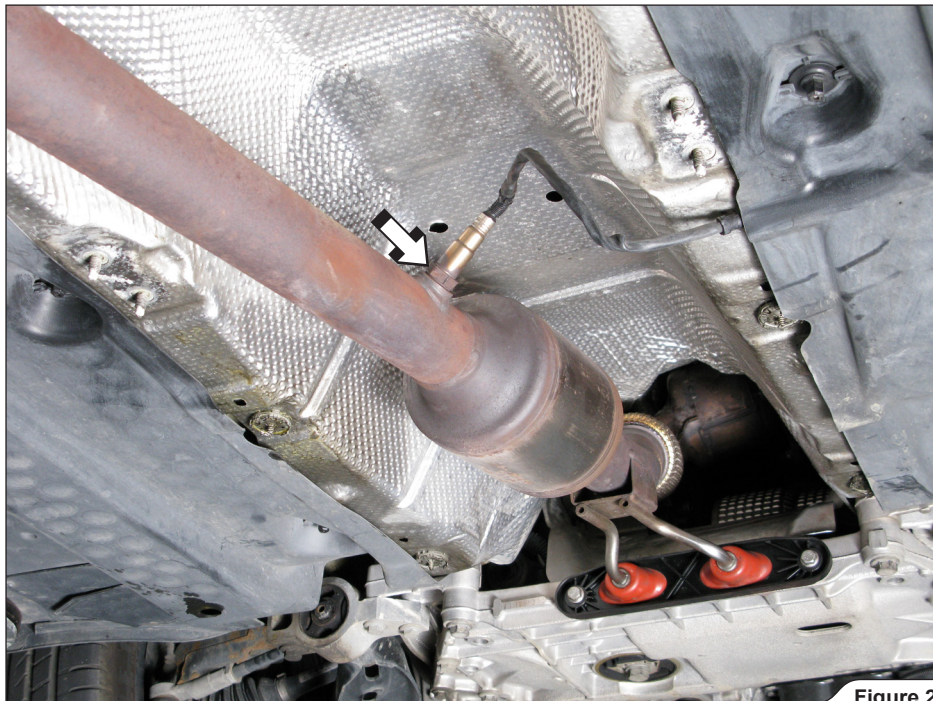

Figure 2
2. Unscrew the marked rear lambda sensor (Figure 2).